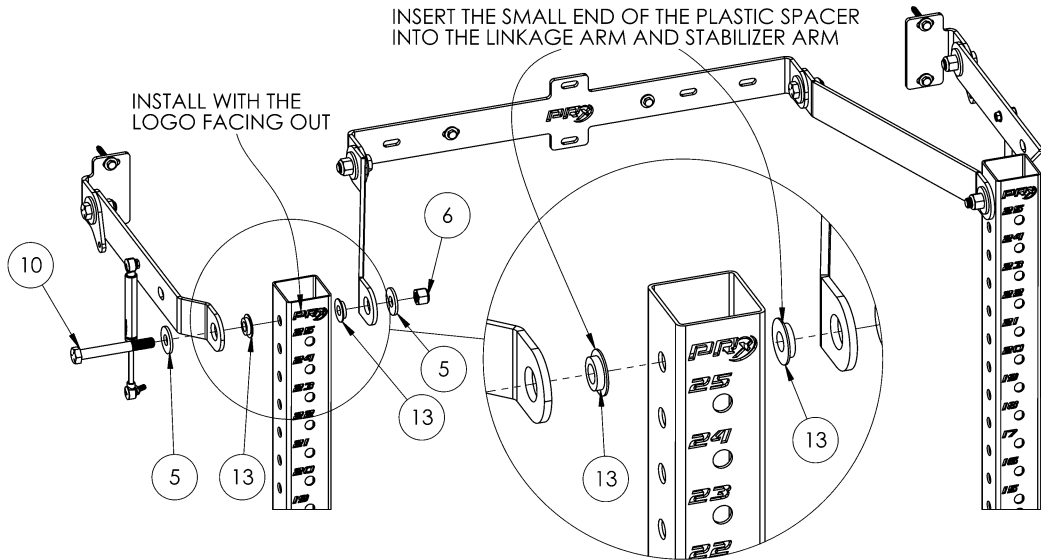

Figure 8: Bolting the Rack to the Upper Linkage Arms
2. Use one 5/8" x 5" hex bolt (10) and bolt the linkage arm to the upright through the stabilizer arm using the 5/8" x 5" hex bolt (10), two 5/8" flat washers (5), two plastic spacers (13), and one 5/8" locknut (6) (**Figure 8**). Repeat this with the other side.